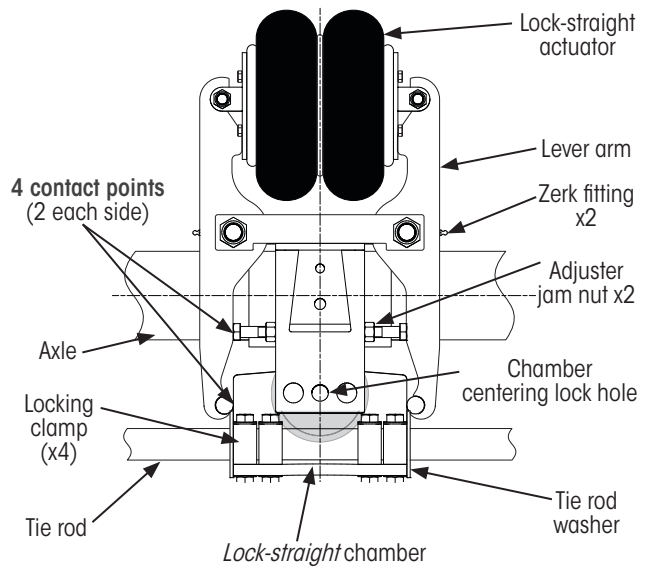

Figure 29: Self-steer axle lock-straight mechanism (bottom view)
During alignment or adjustment of the self-steer axle, the lock-straight assembly (Figure 29) is used to lock the tie rod in the center position while the wheels are checked and/or adjusted to point straight forward on the trailer, with toe.
- B. No excess **wear** at the four lever arm contact points (Figure 29) and pivot points.
- C. All four contact points (Figure 29) have **no gaps**.
**NOTE:** If properly positioned, tie rod washers (Figure 29 on page 22) should maintain wheel center position after clamps are loosened. These washers are typically tack welded in position during initial suspension installation or when replacing a tie rod assembly.